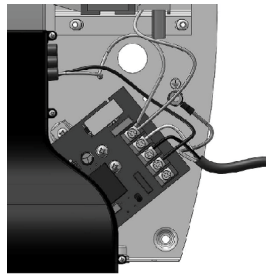

Fig. 5
- f. For 115-Volt Dryers, connect ground wire to ground terminal marked \oplus , the black or hot wire to terminal marked L1, and neutral or white wire to terminal marked N. A DEDICATED LINE IS REQUIRED FOR EACH 115-VOLT INSTALLATION. (See Fig. 5)
- g. For 208–240 Volt Dryers, connect ground wire to ground terminal marked \oplus and the 208–240 volt wires to terminal marked L1 and L2. (See Fig. 5)